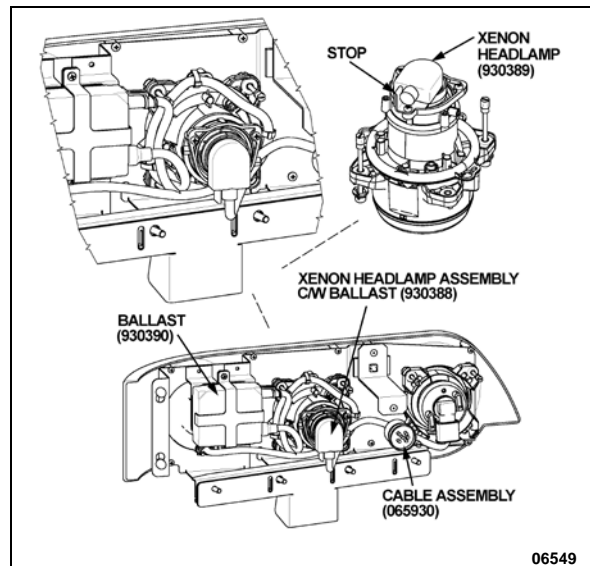

FIGURE 53: XENON HEADLAMP LOCATION
10. The inspection limits for high-beam headlights shall be with the center of the high-intensity zone from 10 cm (4 in) up to 10 cm (4 in) down; and, from 10 cm (4 in) left to 10 cm (4 in) right on a screen at 7.6 m (25 ft) (Figure 53).